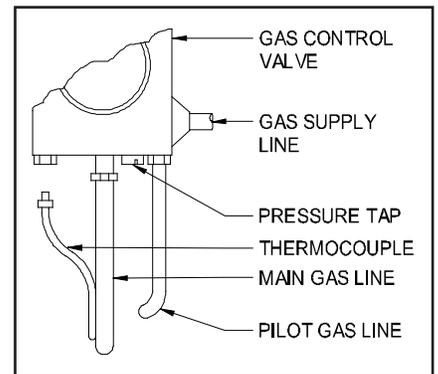

Figure 5
1. Remove thermocouple from gas control valve. (See Figure 5)